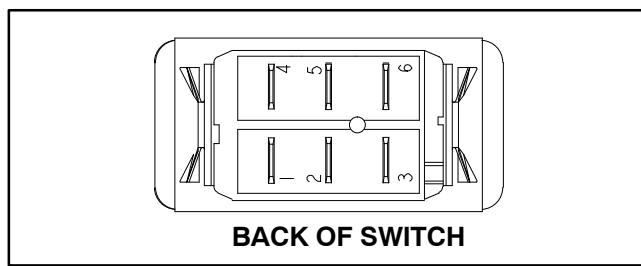

Figure 12
4. With the use of a multimeter (ohms setting), the headlight switch functions may be tested to determine whether continuity exists between the various terminals for each switch position. The switch terminals are marked as shown in Figure 12. The circuitry of this switch is shown in the chart below. Verify continuity between switch terminals for each switch position.